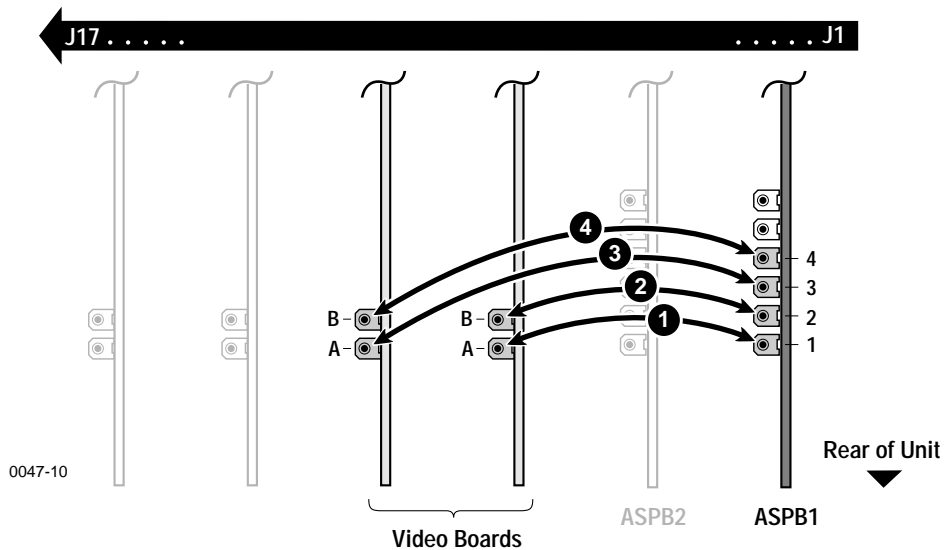
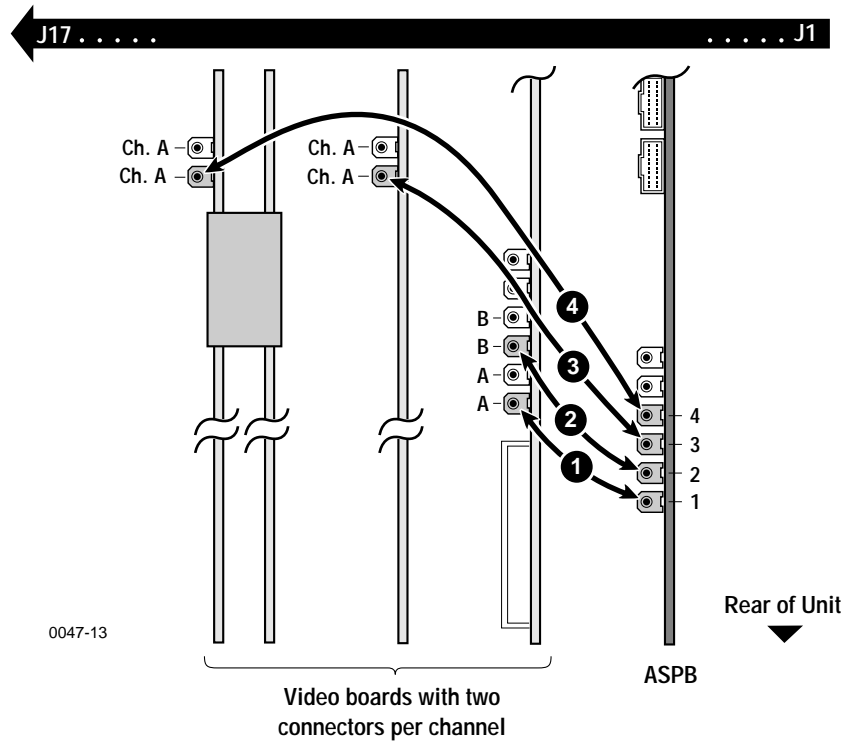
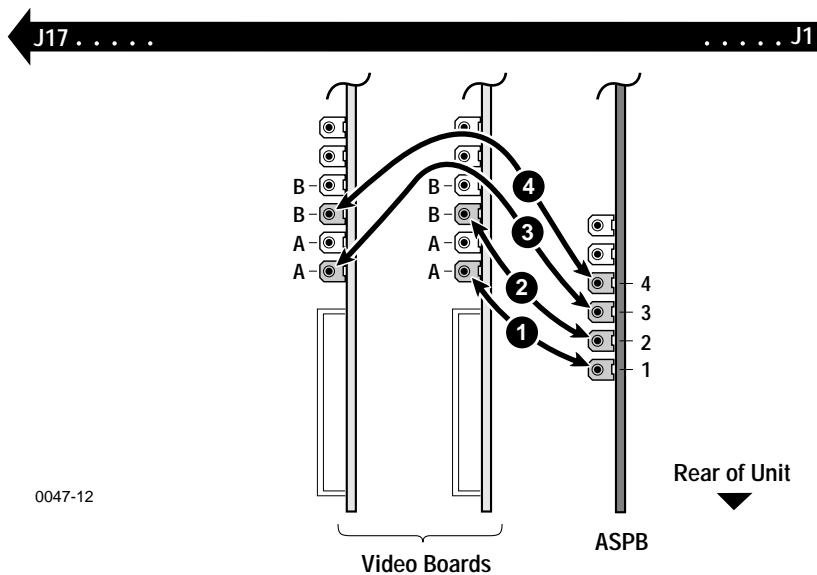

Figure 12. Audio Clock cabling example for ASPB1
Figure 13. Cabling example for boards with two connectors per channel
Figure 15. Audio Clock cabling example in the PDR 100
- b. Connect the other end of the cable to Channel A of the video input board in the lowest numbered slot (❶ in example Figure 12).
- b. Connect the other end of the cable to Channel B of the same video input board to which the previous clock cable was attached (❷ in example Figure 12) or to Channel A of the video input board in the next higher numbered board slot. (Remember, if a board has two Channel A connectors use only one of them as shown by ❷ in Figure 13 on page 48.)
- b. Connect the other end of the cable to Channel A of the video input board in the next higher numbered board slot (❸ in example Figure 12) or to Channel B of the same video input board to which the previous clock cable was attached. (Remember, if a board has two Channel B connectors use only one of them as shown by ❸ in Figure 13 on page 48.)
- b. Connect the other end of the cable to Channel B of the same video input board to which the previous clock cable was attached (4 in example Figure 12) or to Channel A of the video input board in the next higher numbered board slot (4 in example Figure 13).
NOTE: Before making connections, check to see if any of your video input boards have two Channel A or two Channel B connectors. (Refer to Figure 4.) Use only one of the Channel A and one of the Channel B connectors on these boards as shown in Figure 13. Follow this rule throughout the procedure.
- b. Connect the other end of the cable to Channel A of the video input board in the lowest numbered slot (❶ in example Figure 15).
- b. Connect the other end of the cable to Channel B of the same video input board to which the previous clock cable was attached or to Channel A of the video input board in the next higher numbered board slot (❷ in example Figure 15). (Remember, if a board has two Channel A connectors use only one of them.)
- b. Connect the other end of the cable to Channel A of the video input board in the next higher numbered board slot (❸ in example Figure 15) or to Channel B of the same video input board to which the previous clock cable was attached. (Remember, if your board has two Channel B connectors use only one of them as shown in Figure 13 and Figure 15.
- b. Connect the other end of the cable to Channel B of the same video input board to which the previous clock cable was attached (4 in example Figure 15) or to Channel A of the video input board in the next higher numbered board slot (4 in example Figure 13).